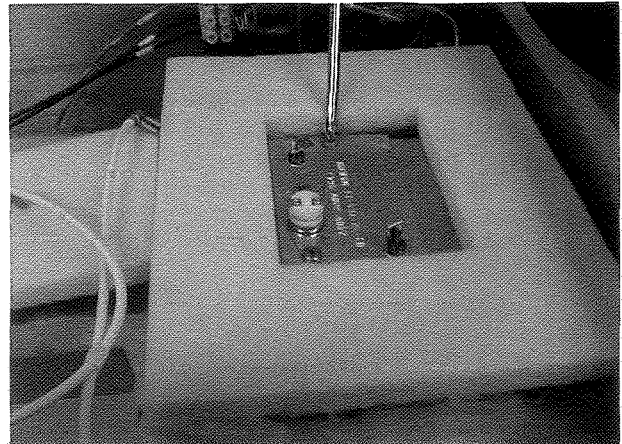

Figure 3
4. Remove the 2 screws holding the heater to the cabinet. (See Figure 3)